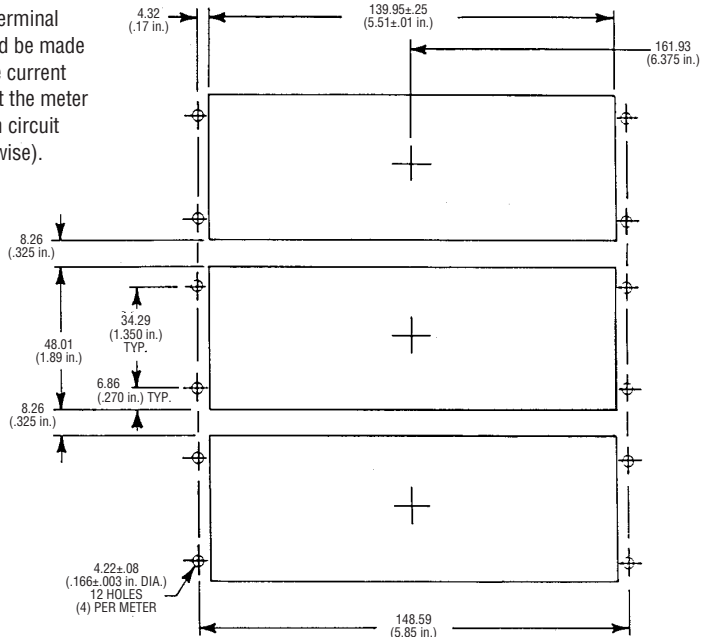

Figure 2.1 Panel Dimension for ADF-7
- Step 1 Make cutout in panel according to Figure 2.1.